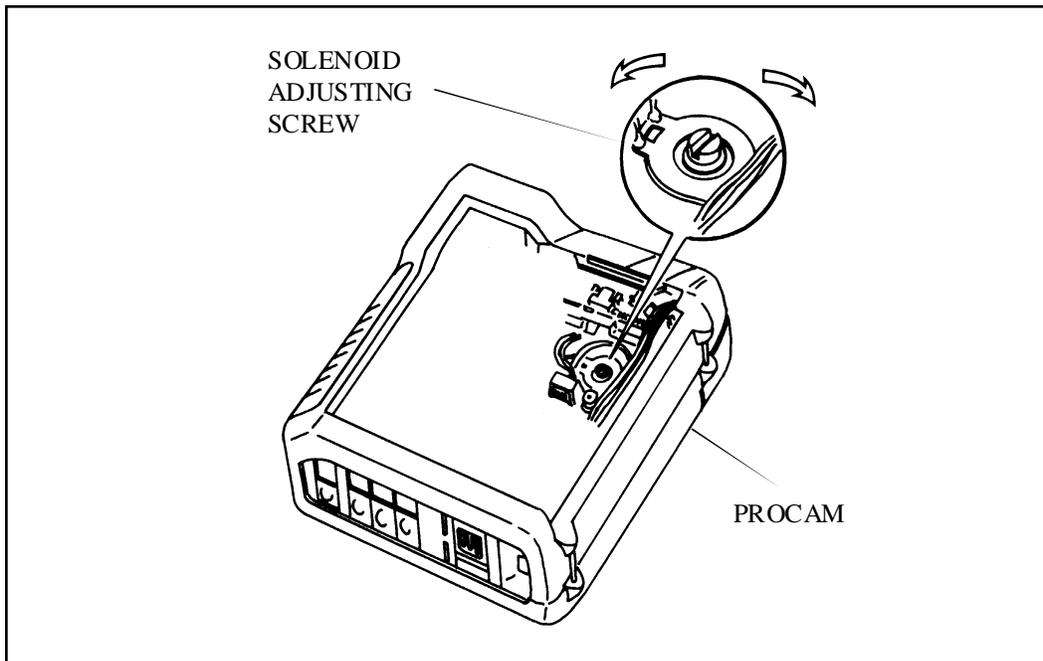

Figure 2-8. Adjusting Solenoid 1 to Change Quintic Speed
2. Using small screwdriver, carefully turn the adjusting screw of Solenoid 1 (Figure 2-8) 1/2 turn at a time.